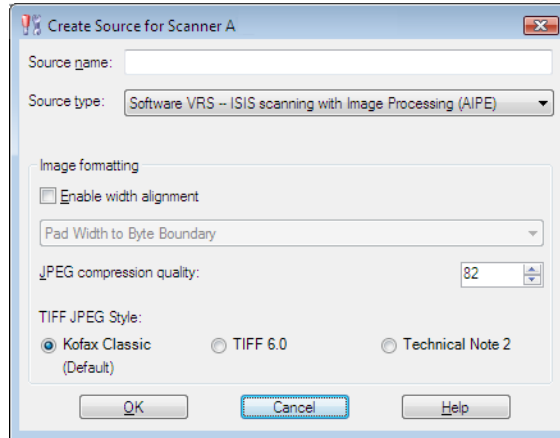

Figure A-4. Create Source Dialog Box
- 5 From the Configure Sources dialog box, click New. The Create Source dialog box will display (Figure A-4).